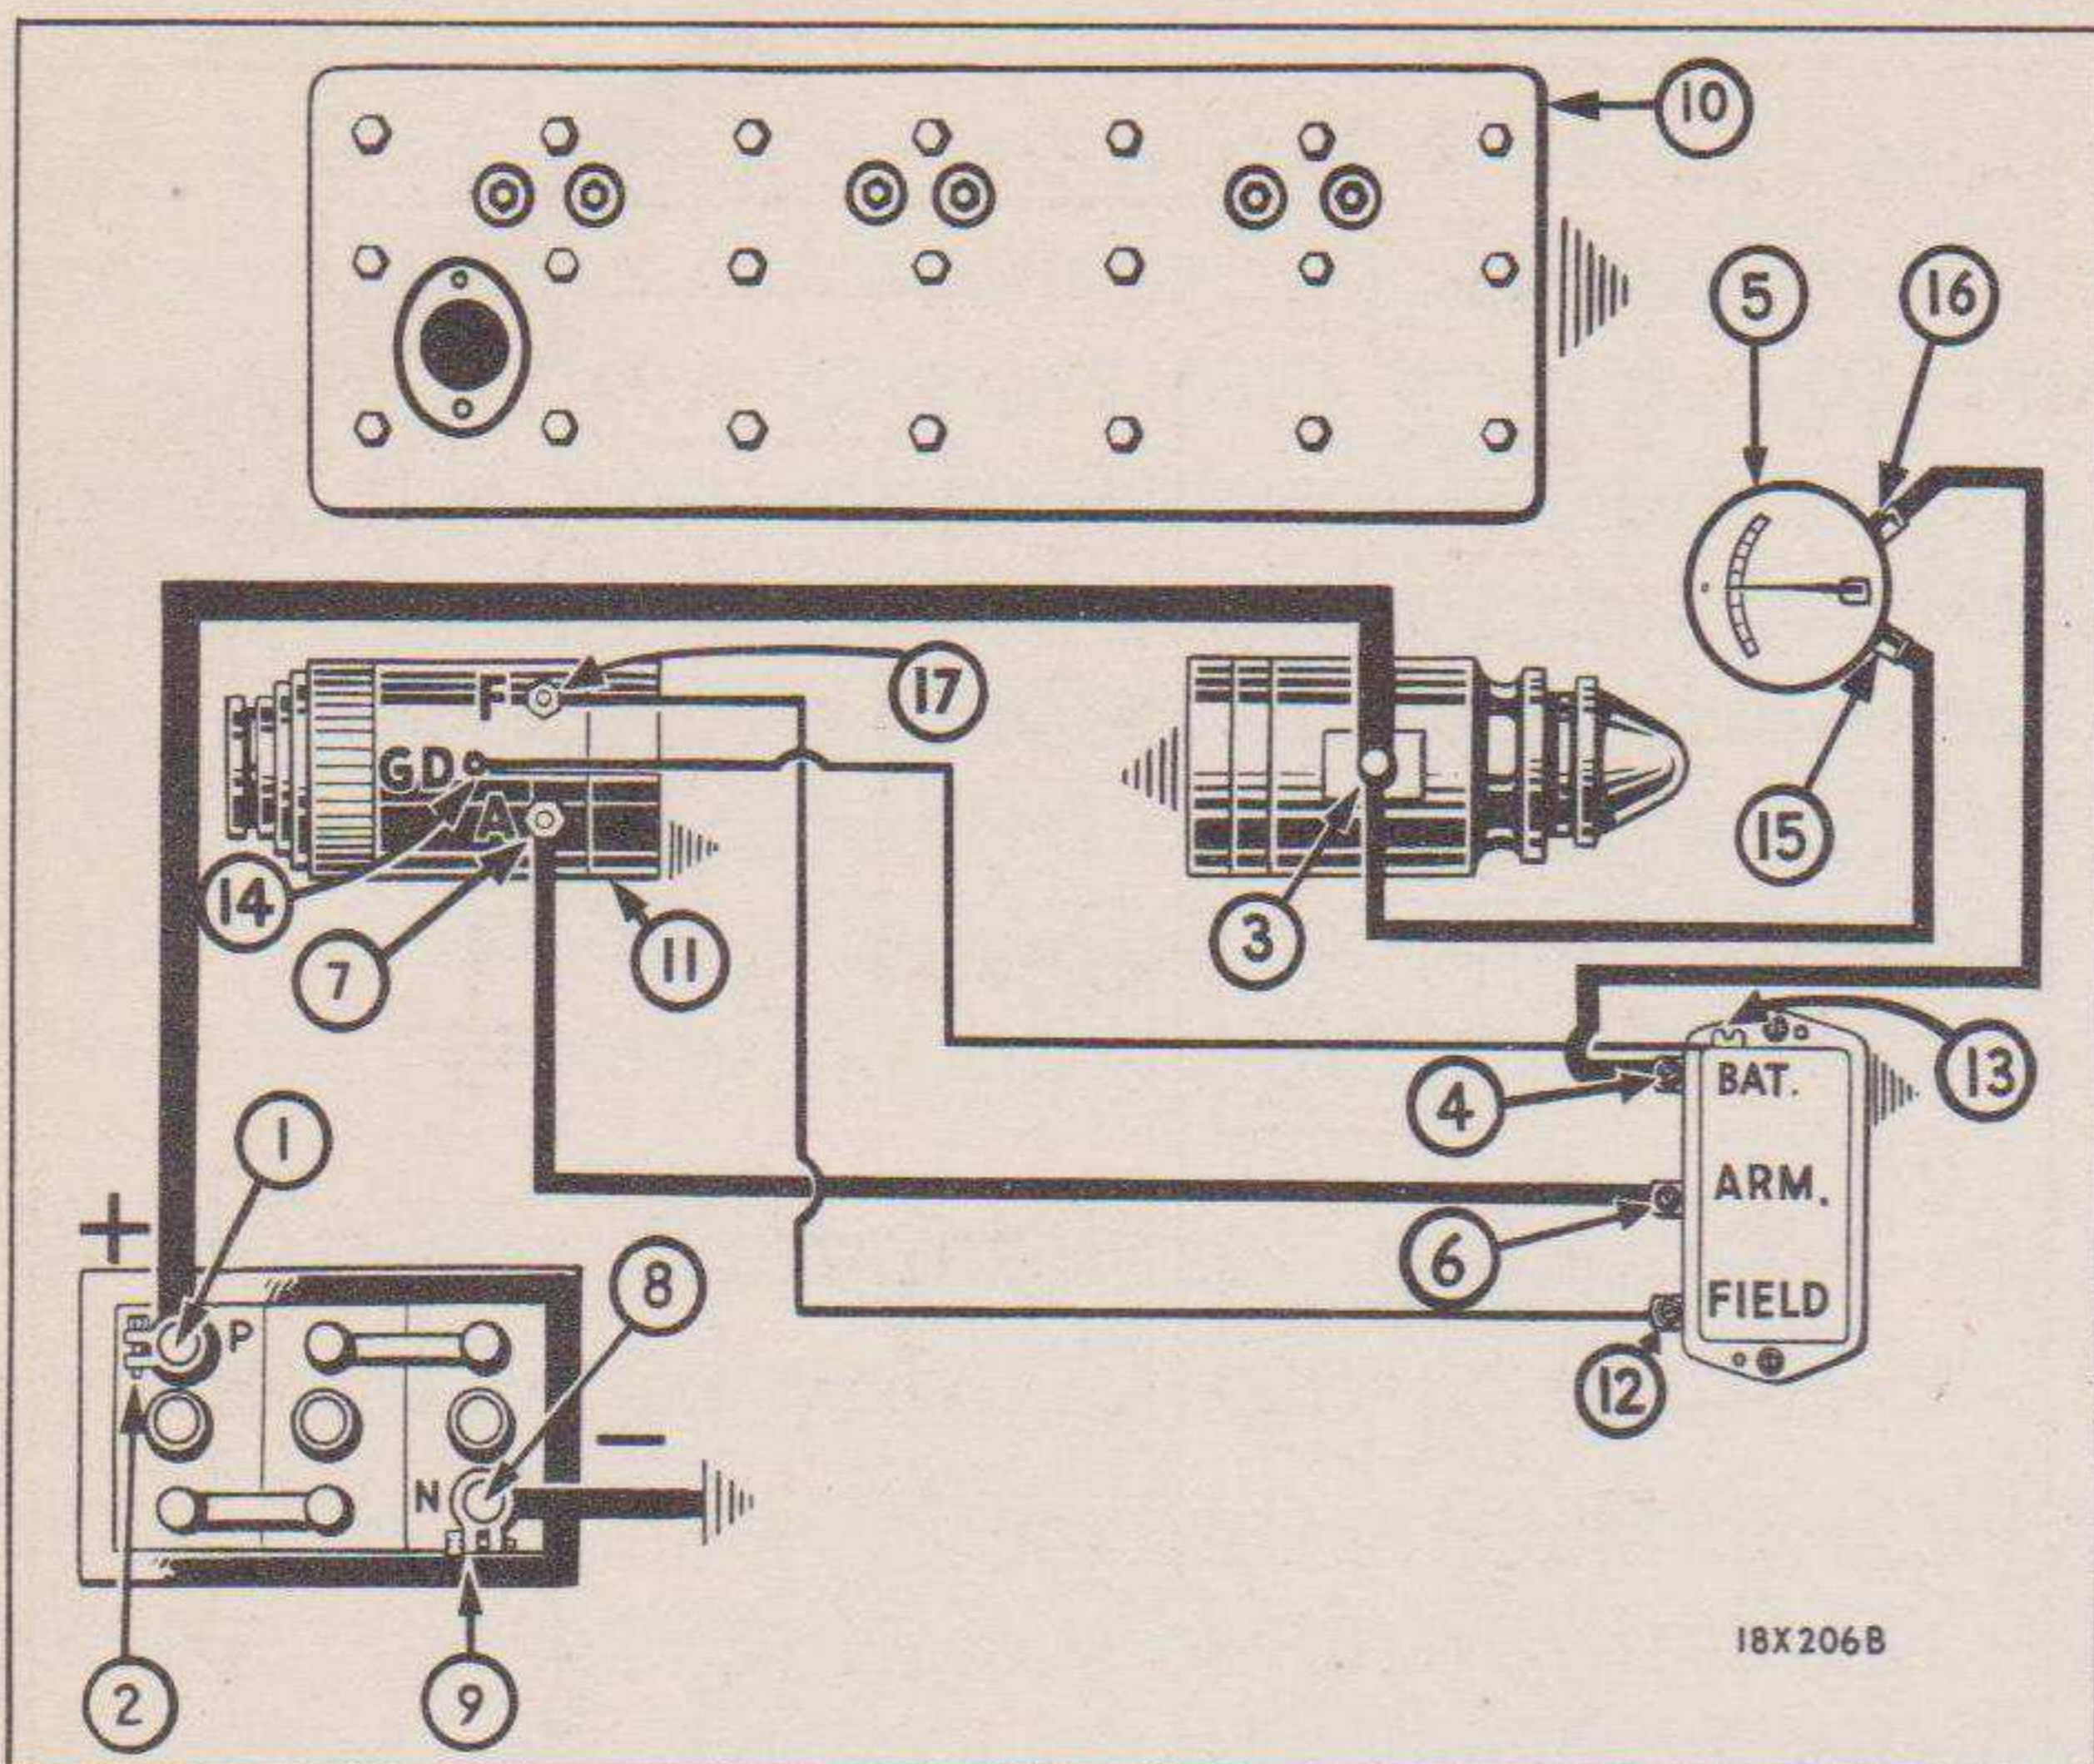

Fig. 115—Checking Diagram for Starting and Generator Circuits
As some resistance exists, even in a generating circuit that is normal in every respect, a total resistance or voltage drop, not to exceed 0.35 volt from the generator "A" terminal (7, Fig. 115) to the battery positive post (1, Fig. 115) can be considered normal, with 10 amperes flowing in this circuit.
To check the wiring and connections, first make an overall quick check of the circuit by connecting the negative voltmeter lead to the positive battery post and the positive lead of the voltmeter to the armature terminal on the generator. See 1 and 7, Fig. 115.
*Refer to Fig. 115*
If the voltmeter reading exceeds .15 volt, clean and tighten the connections on the back of the ammeter and examine the soldered connections on the ends of the wires for poor connections or corrosion. In some instances excessive voltage drop may be traced to the ammeter itself. To check, place a jumper across the ammeter (15 and 16, Fig. 115) to eliminate the internal resistance of the meter.
Make a quick, overall check of the ground side of the circuit by connecting the negative voltmeter lead to the generator frame. See 8 and 11, Fig. 115. The voltmeter reading should be practically zero. If any reading can be obtained, make the following checks leaving the positive lead of voltmeter connected to negative battery post or terminal: